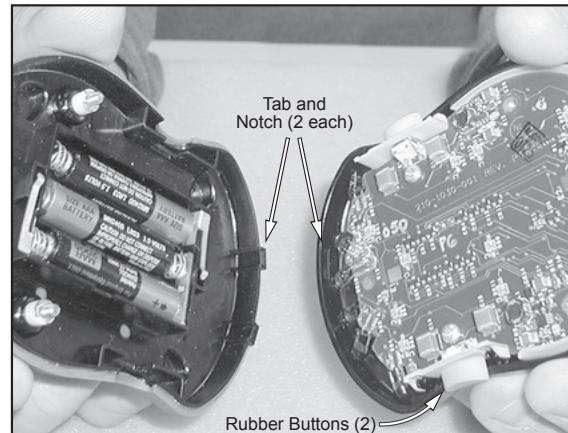

FIGURE 4-2 TWO HALVES OF REMOTE CONTROL
4. Grasp two halves of remote and tip edges together as shown (see *Figure 4-2*). The two tabs inside bottom edge of remote must match up with two notches in other half of remote.